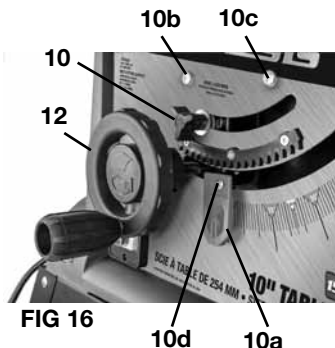

FIG 16
### BLADE HEIGHT ADJUSTMENT (FIG 16)
### 90° AND 45° POSITIVE STOPS ADJUSTMENT (FIG 16, 17)
**To adjust the 45° positive stop**, follow the same procedures as adjusting the 90° positive stop. Set the blade at a 45° angle against a combination square. The 45° positive stop adjusting screw and jam nut (10c) are on the right side. See FIG 16.
### **BLADE BEVEL INDICATOR ADJUSTMENTS (FIG 16)**
1. Loosen the bevel locking knob (10), push the blade control wheel (12) and turn clockwise to position the blade at 90° measured by using a combination square. See FIG 16.
### **BLADE BEVEL ADJUSTMENT (FIG 16)**